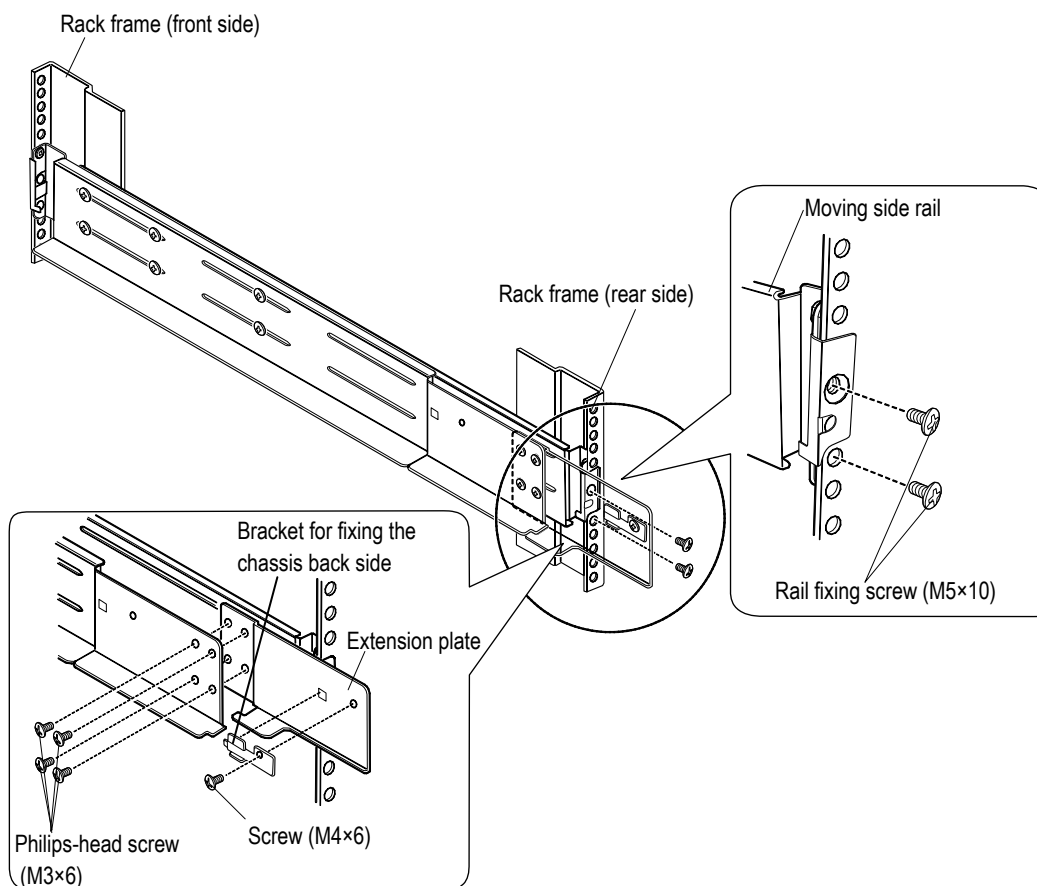

Figure 2.2.14 Installing Rack Rails (Circular Hole) for Controller Box (2U)-3
- (v) Fix the moving side rail (R) with two screws (M5×10) (See Figure 2.2.14.)